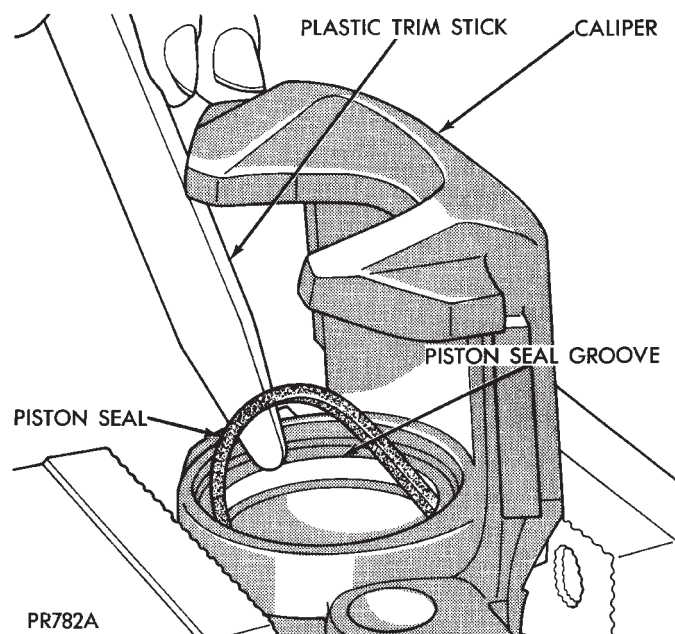
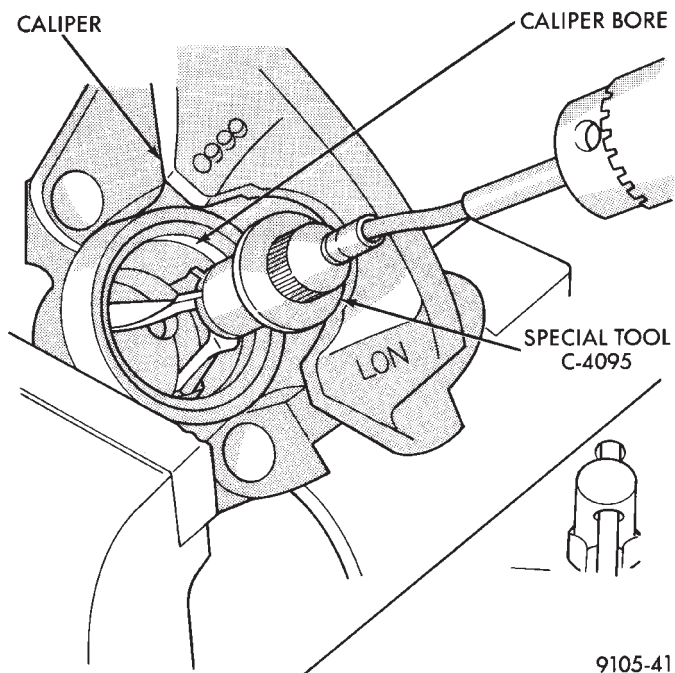

Fig. 167 Removing Piston Seal From Caliper
Fig. 168 Honing Brake Caliper Piston Bore
(8) Using a soft tool, such as a plastic trim stick, work piston seal out of its groove in caliper piston bore (Fig. 167). Discard old seal. **Do not use a screw driver or other metal tool for this operation, because of the possibility of scratching piston bore or burring edges of seal groove.**
(9) Clean all parts using alcohol or a suitable solvent and wipe dry **using only a lint free cloth**. No lint residue can remain in caliper bore. Clean out all drilled passages and bores. **Whenever a caliper has been disassembled, a new boot and seal must be installed at assembly.**
(10) Inspect the piston bore for scoring or pitting. Bores that show light scratches or corrosion can usually be cleared of the light scratches or corrosion using crocus cloth. Bores that have deep scratches or scoring should be honed. Use Caliper Hone, Special Tool C-4095, or equivalent providing the diameter of the bore is not increased more than 0.0254 mm (0.001 inch) (Fig. 168).